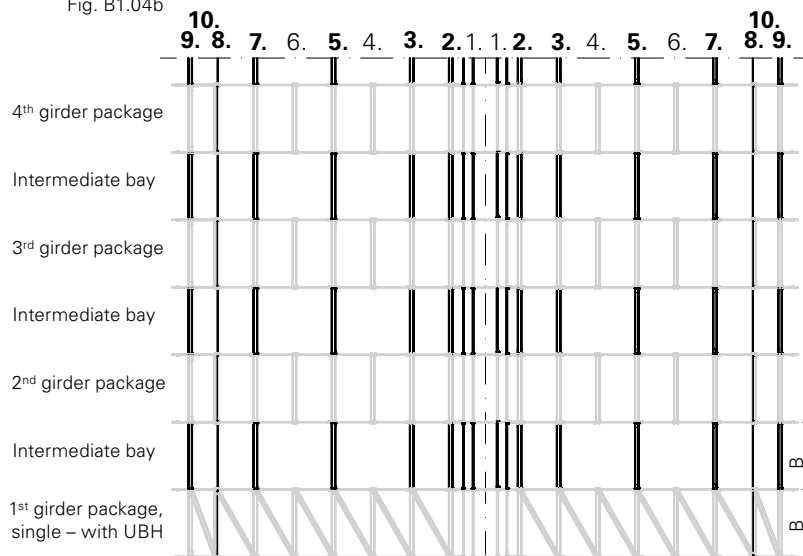

Fig. B1.05a
- 1st girder package, single (Fig. B1.05a)